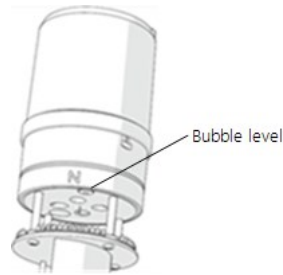

Figure 7-4. Bubble level on the ClimavUE 50
- Use a torpedo level or the bubble level underneath the sensor to level it (Figure 7-4 [p. 17]). The angle of the instrument mount may need to be adjusted if the mast is not vertical. Shims can be added between the top of the mast and the bottom of the ClimaVUE 50 to